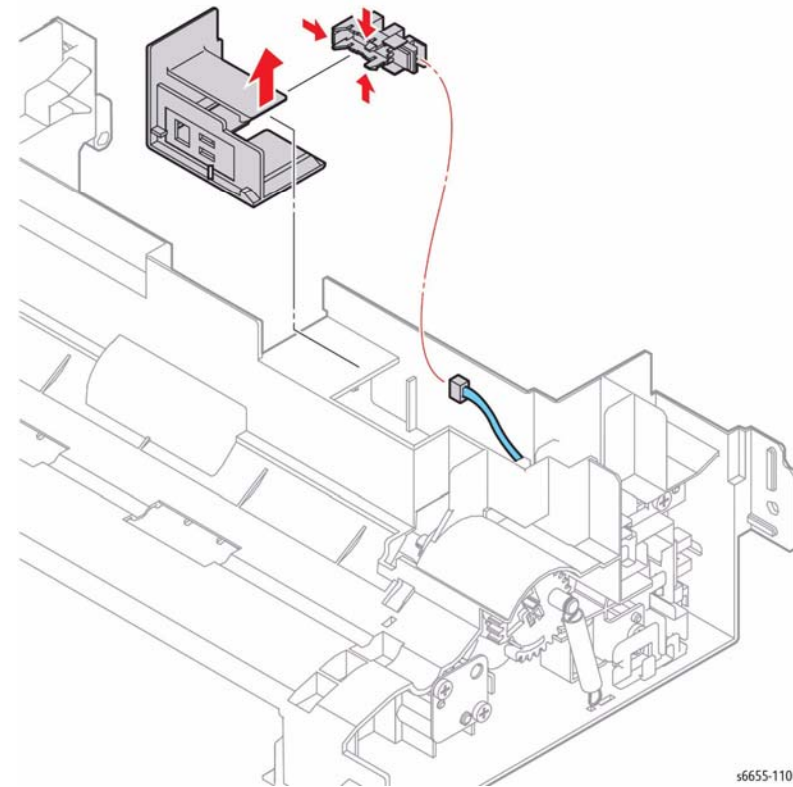

Figure 1 Remove the Bypass Tray No Paper Sensor
2. Refer to Figure 1 to locate and unplug connector P/J212 of the Bypass Tray No Paper Sensor (Interlock Photo Sensor).